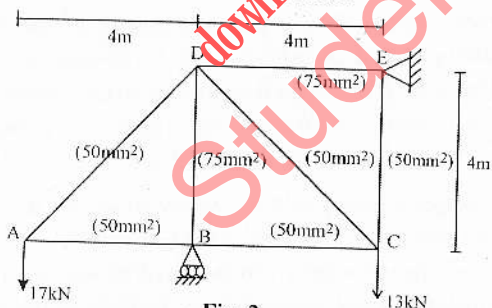

Fig. 2.
8. Analyze the truss as shown in Fig. 2 using the method of joints. Also determine the vertical displacement of the point A using the unit load method. Assume the members to be pin connected at their ends. The cross-sectional area of each member of the truss is shown alongside in the figure and $E = 200\text{GPa}$ for each member.